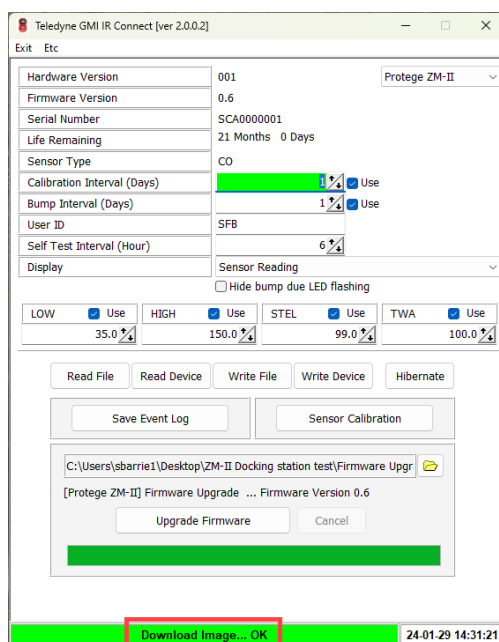

Figure 6-5: IR Connect - Successful firmware upgrade
5. A successful upgrade is indicated by a green OK bar at the bottom of the application window, as illustrated in Figure 6-5.